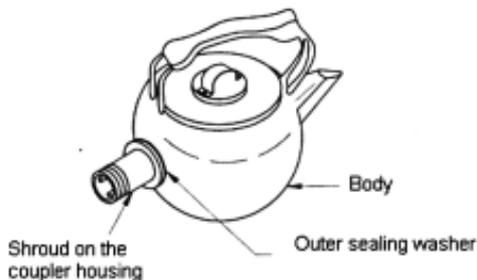
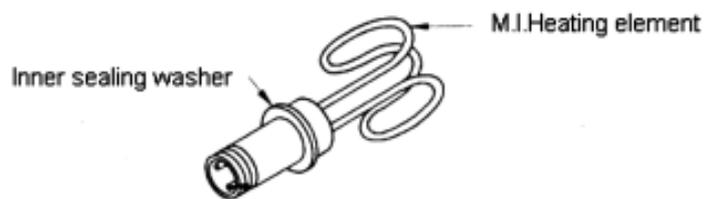

Fig. 10.1 - Swan neck type water kettle
Fig. 10.2 - Kettle heating element
**Swan neck type:** In this type, the heating element is of tubular immersion type as shown in Fig.10.1. It is concealed inside a hollow tube and mineral insulated. The heating element is made up of Nichrome coated around with magnesium oxide to ensure that the element does not directly touch the wall of the kettle body. The heating element is fixed at the bottom of the kettle. The simple form of Swan type kettle is shown in Fig. 10.2